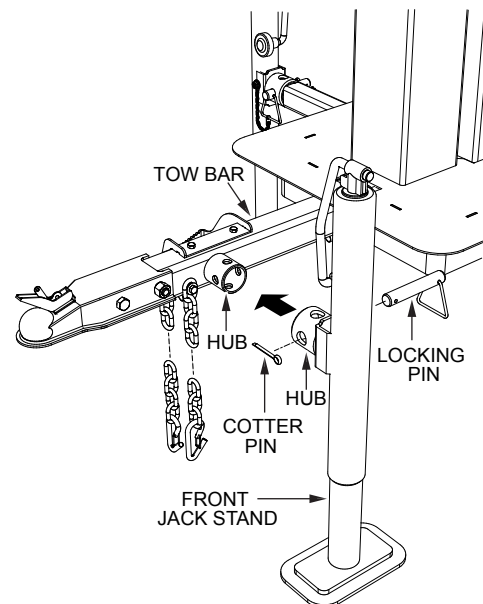

Figure 10. Front Jack Stand Install
- Place **front jack stand** onto tow bar jack stand support hub as shown in Figure 10.